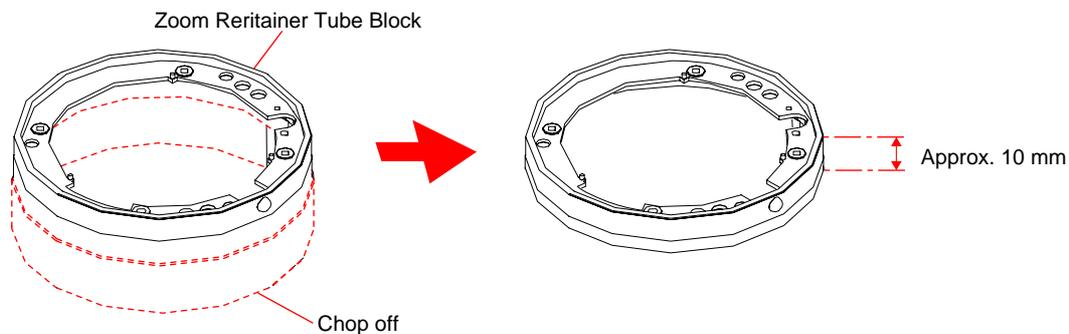

Fig. 4-1-3
- 1) Chop off the zoom retainer tube block as shown in Fig. 4-1-3.